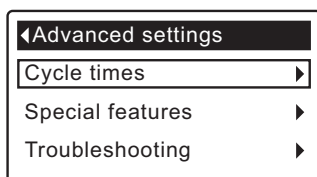

FIG. 65
3. Press the OK/MENU button to display the Advanced settings menu (See Figure 65).